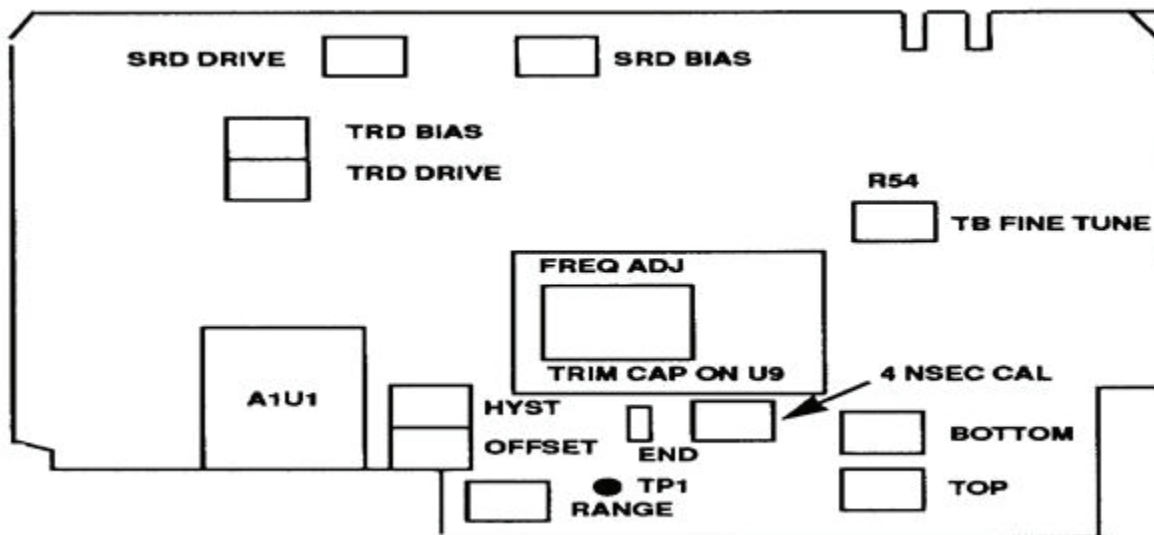
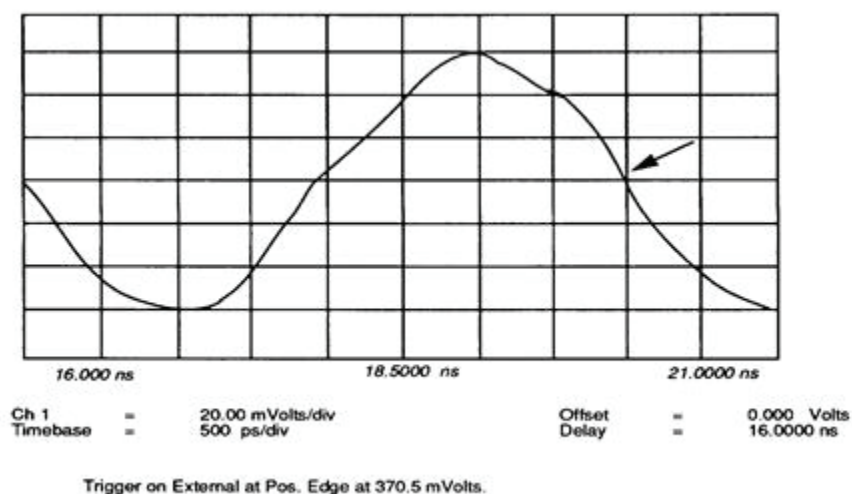
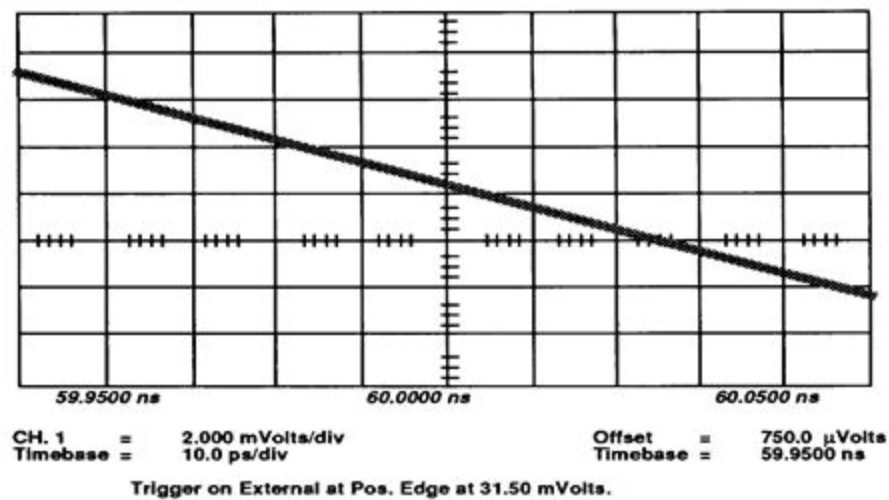

Figure 11. Horizontal assembly A1 adjustments.
Figure 13. Trace discontinuity at eighth graticule.
Figure 15. Correct and adjustment - no discontinuity.
d. Connect the positive lead of multimeter to horizontal assembly A1TP1 (fig. 11) and negative to chassis ground and adjust the **RANGE** (fig. 11) for 5 V (R).
- k. Preset SRD BIAS on horizontal assembly A1 (fig. 11) to mechanical center.
- l. Adjust SRD DRIVE on horizontal assembly A1 (fig. 11) for a signal amplitude of 0% and + 100% on display.
An offset may exist in the signal during this portion of the adjustments. If the signal peaks do not overlay the 0% and 100% markers, adjust SRD DRIVE (fig. 11) for equal amounts of signal above or below the markers in the following steps. The **OFFSET** level may be adjusted anytime during this procedure.
m. Slowly adjust SRD BIAS on horizontal assembly A1 (fig. 11) for maximum signal amplitude. The waveform will compress and slightly increase in amplitude. SRD BIAS (fig. 11) must be adjusted slowly to see the slight amplitude increase.
g. Remove tape from the **FREQ ADJ TRIM CAP ON U9** on horizontal assembly A1 (fig. 11).
h. Re-measure the frequency while making small incremental adjustments to **FREQ ADJ TRIM CAP ON U9** (fig. 11) until frequency is 250 MHz \pm 250 kHz (between 249.750 and 250.250 MHz) (R).
- k. Preset the TB FINE TUNE (R54) on the horizontal assembly A1 (fig. 11) to mechanical enter.
- l. Adjust the FREQ ADJ TRIM CAP ON U9 on the horizontal assembly A1 (fig. 11) until the trace is flat ± 1 major division (R).
- m. Replace the tape over the FREQ ADJ TRIM CAP ON U9 (fig. 11). (Masking or electrical tape can be used.)
- n. Allow 10 minutes for U9 to stabilize its temperature, with the tape over the FREQ ADJ TRIM CAP ON U9 (fig. 11) hole.
- p. Adjust the R54 TB FINE TUNE (fig. 11) on the horizontal assembly A1 for the flattest trace possible on display (R).
- d. Adjust the 4 NSEC CAL on horizontal assembly A1 (fig. 11) fully ccw.
- e. Adjust the END on horizontal assembly A1 (fig. 11) for a small amount of trace discontinuity at the beginning of the eighth vertical graticule division (fig. 13). If necessary, adjust trigger level to center the trace discontinuity vertically on display.
i. Readjust the **END** adjust on horizontal assembly A1 (fig. 11) to eliminate the trace discontinuity (fig. 15).
k. Adjust the 4 NSEC CAL on horizontal assembly A1 (fig. 11) from its ccw limit to the first null point (minimum trace discontinuity).